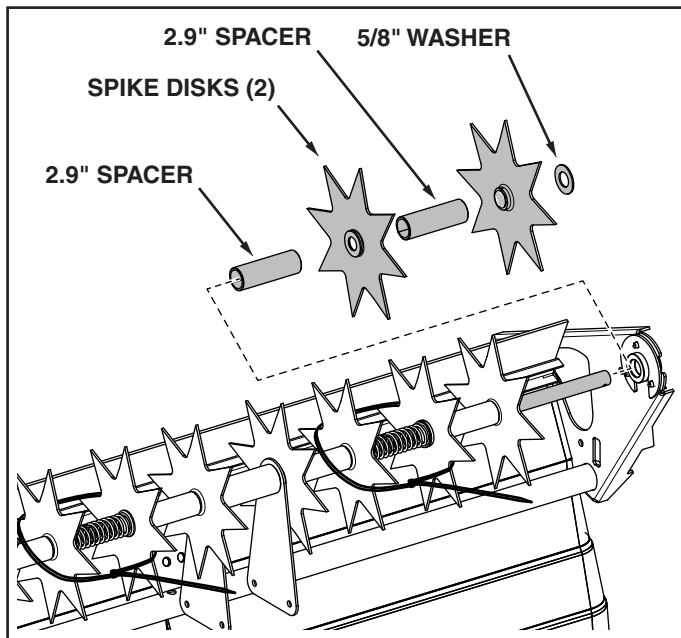

FIGURE 13
16. Assemble a 2.9" spacer onto the axle. See figure 13.
17. Assemble two spike disks, a 2.9" spacer and a 5/8" washer onto the axle. The flat side of the disks should face away from the spacer. See figure 13.